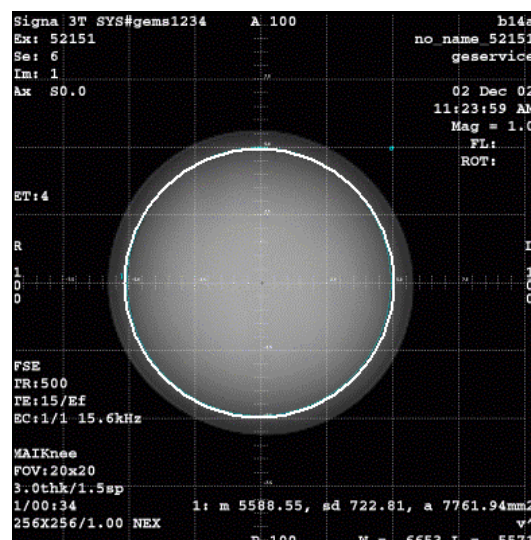
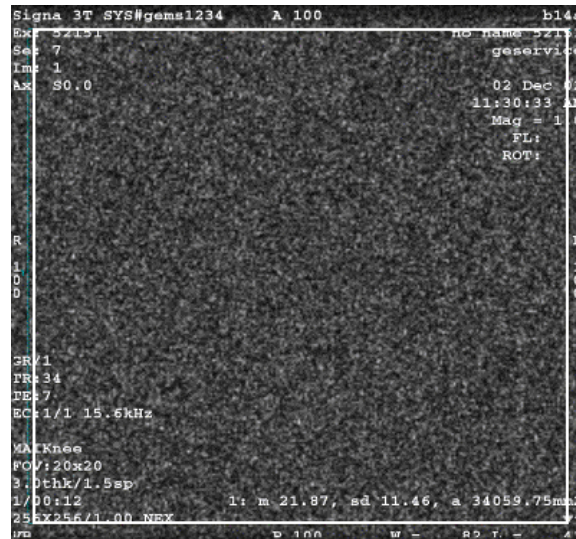

Figure 3: Example Signal ROI
Figure 4: Example Noise ROI
1. A circular Region of Interest (ROI) should be used for the signal measurements, and a rectangular ROI should be used for the noise measurements. The actual ROIs should be similar in shape and size to those in Figure 3 and Figure 4 below.